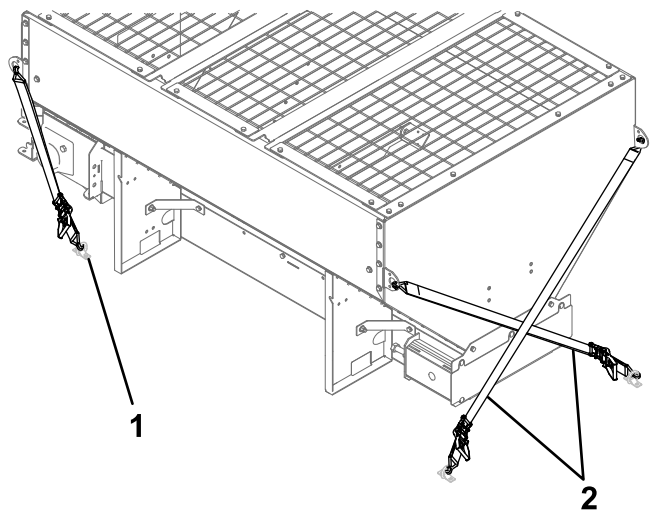

Figure 10
1. Connect the ratchet straps to the D-rings around the upper edge of the spreader (Figure 10).
2. Cross the straps near the vehicle cab and attach them to the D-rings opposite to them on the truck bed (Figure 10).
3. Attach the straps near the rear of the vehicle to the D-rings nearest them on the truck bed (Figure 10).